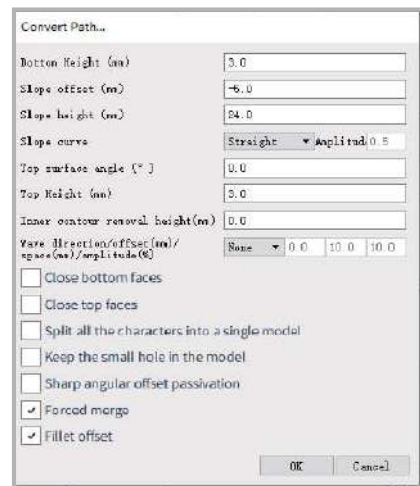

Figure3-18
- When changing the path, check the Mini Character chamfer (as shown in Figure 3-18), and the corners will become rounded.